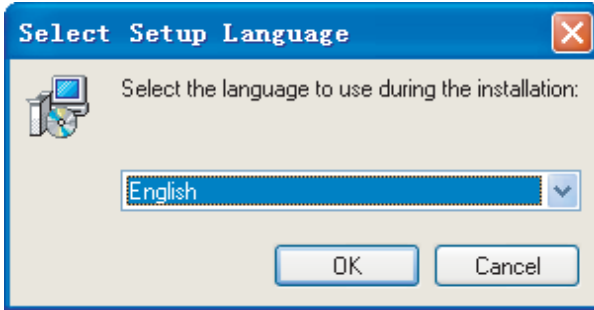

Fig.2-1
1) Installation window as Fig. 2-1. Select English as the used language, click “OK” to continue: